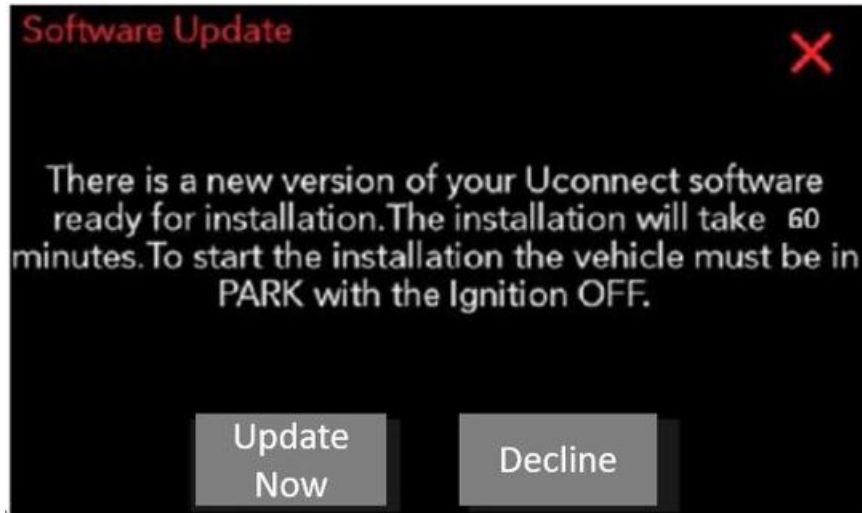

Fig. 7
13. Once the system has verified there is an available update, press the “Update Now” button. Make sure the vehicle is in park, **DO NOT** turn off the ignition (Fig. 7) .